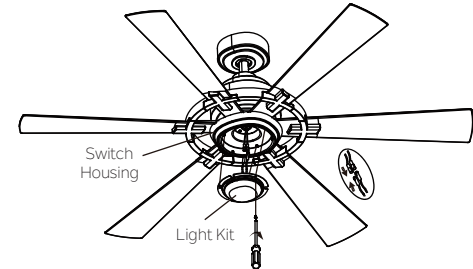

Fig. 22
**Step 2.** Hold the light kit close to the switch housing and connect the WHITE wires from the light kit and fan by pushing the connectors together. Follow the same procedure with the BLACK wires. (Fig. 22)
**Step 3.** Tuck the connections neatly into the light kit. Place the two slot holes on the light kit over two (2) screws previously loosened from the switch housing. Rotate the light kit until it locks in place at the narrow end of the key holes. Securely tighten two (2) screws previously loosened and the one previously removed. (Fig. 22)